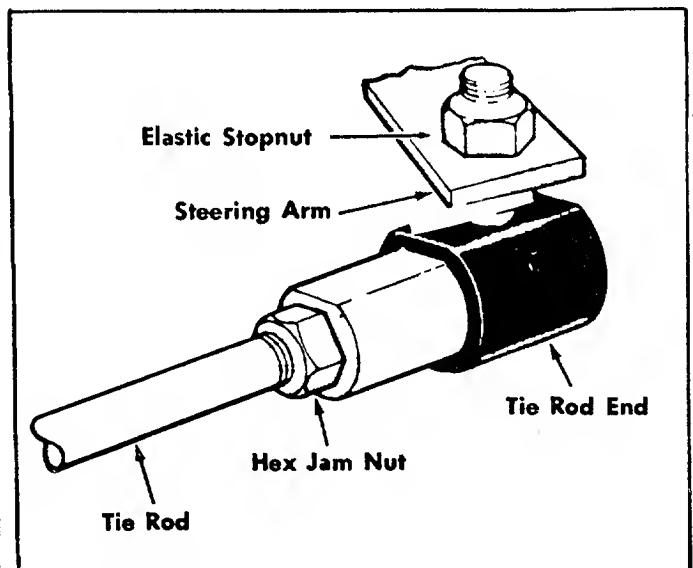

FIGURE 21. TIE ROD END
Step 1. Remove the elastic locknut and drop the tie rod end from the wheel bracket. See figure 21.